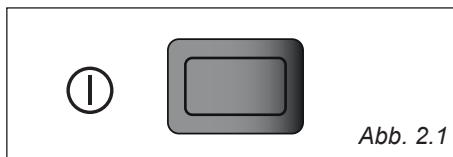

Abb. 2.1
- Switch on the drawer by pressing the pushbutton (fig. 2.1).